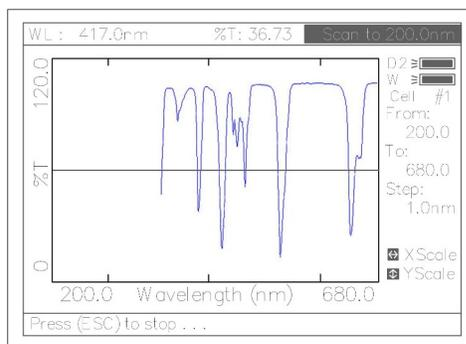

Fig 45
4. Put the sample cuvette into Main Light Path, press **【 START 】** to scan the sample(Fig 45)